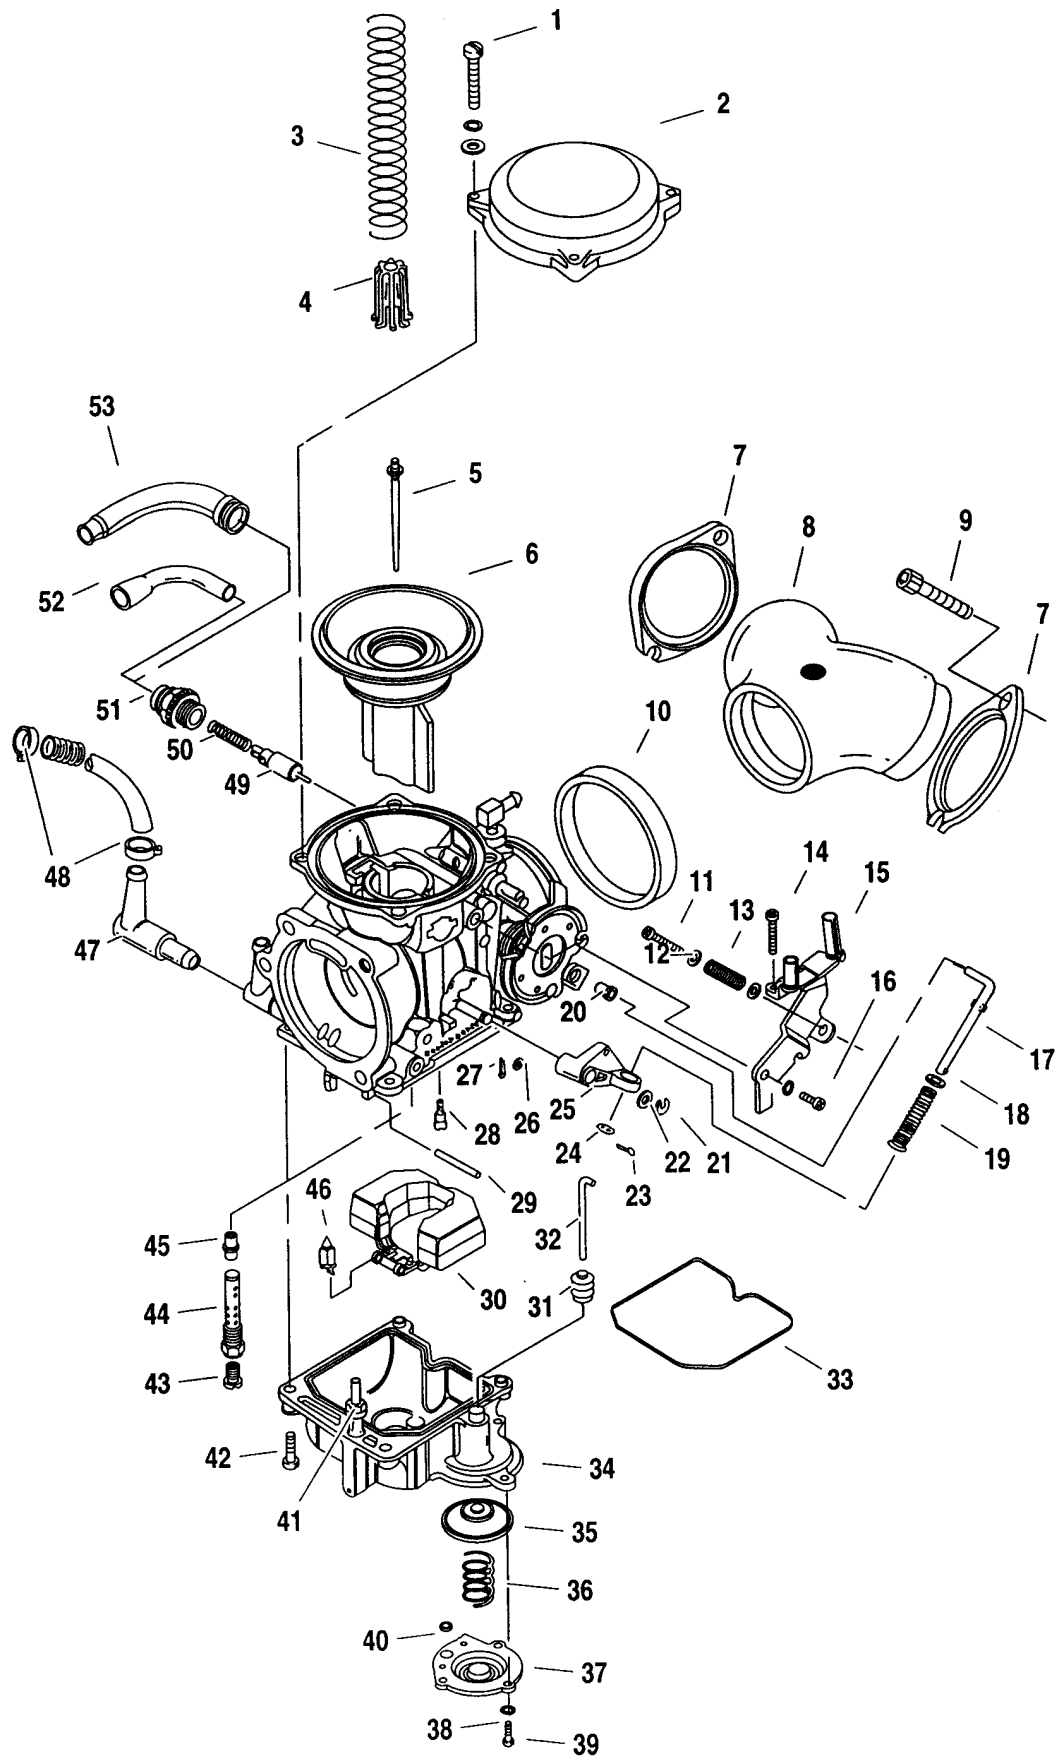

Figure 4-3. Carburetor
5. See Figure 4-3. Remove vacuum hose from the carburetor. Pull carburetor free of seal ring and manifold (8).
6. Remove enricher cable (51, 52, and 53), enricher valve (49) and spring (50).
7. If the manifold or manifold seals need to be removed, remove the screws (9) that hold the manifold in place and detach MAP sensor connector from wiring harness. See 8.6 MANIFOLD ABSOLUTE PRESSURE SENSOR (MAP).
Legend for Figure 4-3.
1. See Figure 4-3. Remove screws (14, 16) and bracket (15).
2. Remove screws (1) and washers. Remove top (2) and spring (3).
3. Lift out vacuum piston (6) with needle (5) and spring seat (4). Remove loose parts from vacuum piston.
1. See Figure 4-3. Remove screws (42) to detach float bowl assembly.
2. Remove pin (29), float (30) and valve (46).
3. Unscrew main jet (43) and needle jet holder (44). Needle jet (45) is now free to be removed from bottom end of passage.
4. Insert thin bladed screw driver into slow jet passage and turn out slow jet (28).
See Figure 4-3. Remove screws (39), lockwashers (38), accelerator pump housing (37), spring (36) and diaphragm (35). Remove O-ring (40) from housing.
3. See Figure 4-3. Examine spring (3) for stretching, crimping or any distortion or damage. Replace if damaged.
5. Examine needle (5) for evidence of bending or damage. Examine tip of float needle for grooves. Needle should be straight and surface of taper smooth and even.
1. See Figure 4-3. Check float bowl O-ring (33) for any distortion or damage. Replace if seating surfaces are damaged.
1. See Figure 4-3. Inspect the accelerator pump diaphragm (35) for holes, cracks or deformation. Replace as necessary.
2. Replace the pump rod (32) if it is bent and replace the boot (31) if it is cracked.
1. See Figure 4-3. Place needle (5) through center hole in vacuum piston (6). Place spring seat (4) over top of needle.
4. Place spring (3) over spring seat and carefully lower top (2). Keep spring straight while lowering top.
6. Once top is installed correctly, install screws (1) and washers. Place bracket (15) in position with idle screw (11) resting on top of throttle cam stop. Install body screw (16) and washer (18) first, then top screw (14), to prevent bending bracket or throttle cam.
1. See Figure 4-3. Screw slow jet (28) into slow jet passage with narrow bladed screwdriver.
2. Turn carburetor upside down. Place needle jet (45) in main jet passage with needle passing through center hole. Be sure end of jet with larger opening and chamfered surface enters passage first.
3. Insert needle jet holder (44) into main jet passage with needle inserted into center of holder. Thread holder into passage and tighten. Thread main jet (43) into tapped hole in holder and tighten.
4. Place float assembly (30) into position with fuel inlet valve (46) inserted into valve seat and pivot arm aligned with holes in mounting posts at bottom of carburetor body. Insert pin (29) through float pivot arm and float mounting posts.
5. Place float bowl over float and onto carburetor body flange. Bowl will only fit in one position. Install screws (42) and tighten.
6. Install enrichener valve (49) and spring (50). Install enrichener cable (51, 52, and 53) on carburetor.
See Figure 4-3. Install diaphragm (35), spring (36), O-ring (40) and housing (37). Secure with three screws (39) and lockwashers (38).
1. See Figure 4-3. Place the intake manifold seal (10), flanges (7), and manifold (8) in position. Flanges are marked with "F" for front cylinder and "R" for rear cylinder. Install the manifold mounting screws (9) finger tight. Place carburetor in position, for alignment purposes.